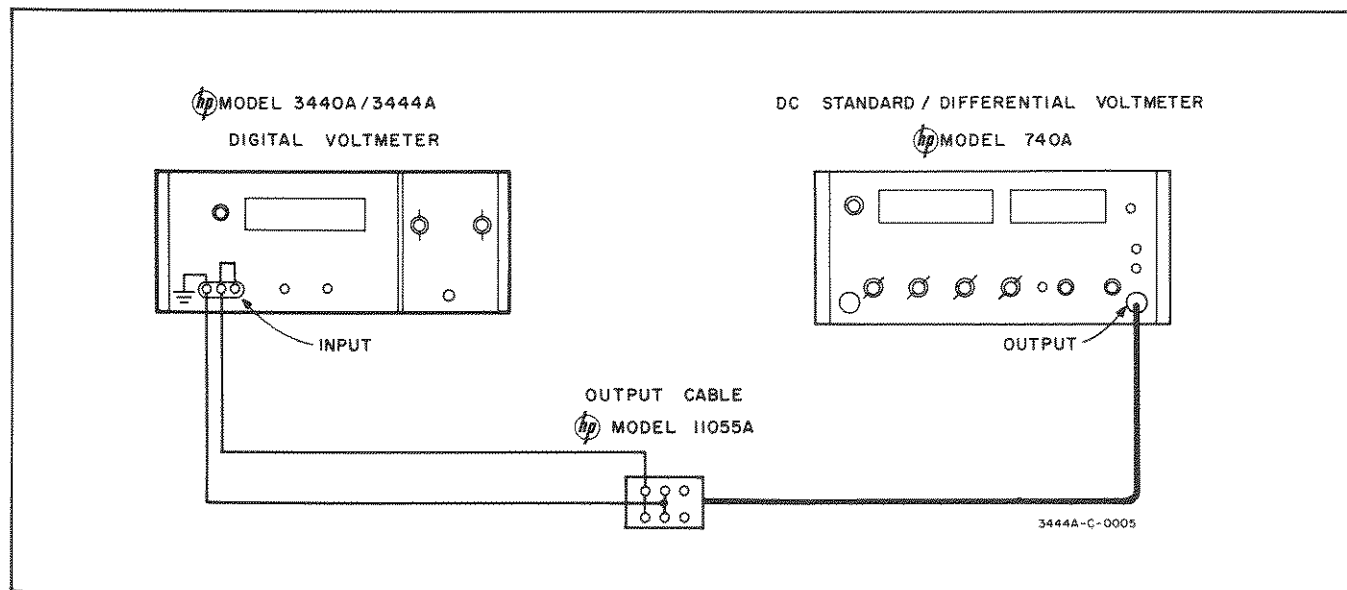

Figure 5-4. Voltmeter DC Common Mode Rejection Test Setup
as shown in Figure 5-4. Connect a jumper between High (red) and Common (⏏) INPUT terminals.
- e. Using Figure 5-4, replace the DC Standard with the Audio Oscillator. Leave the jumper between High (Red) and Common (⏏) INPUT terminals of the 3440A.